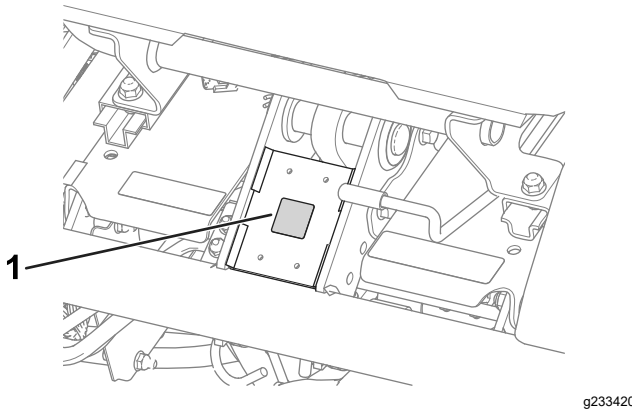

Figure 8
- Apply the CE mark decal (Part No. 93-7252) to the frame under the front of the seat (Figure 8).